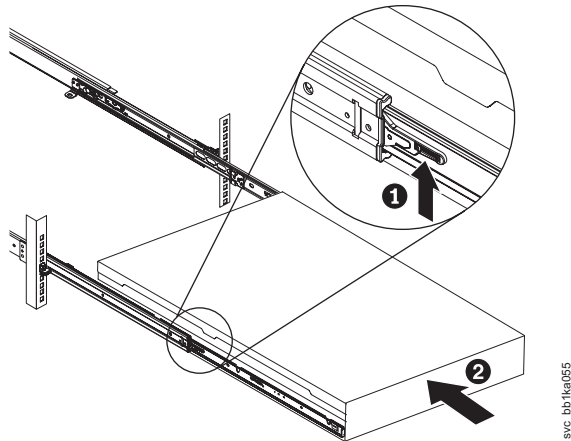

Figure 265. Raising the SAN Volume Controller 2145-CF8 or 2145-CG8 locking levers of the slide rails of the rack
15. Lift the locking levers ( **1** in Figure 265) on the slide rails and push the server **2** all the way into the rack until it clicks into place.